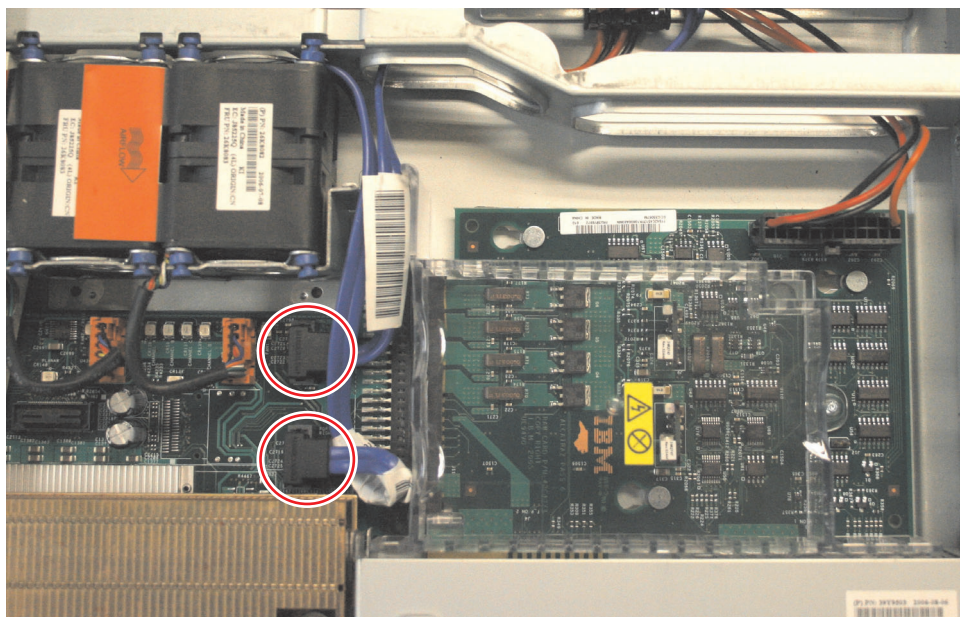

Figure 132. The SAN Volume Controller 2145-8G4 disk-drive backplane connectors
4. Reconnect the power cable to the power supply backplane card. Then reconnect the two blue signal cables to the system board. The left cable goes to the front system board connector and the right cable goes to the rear system board connector, as shown in Figure 132.